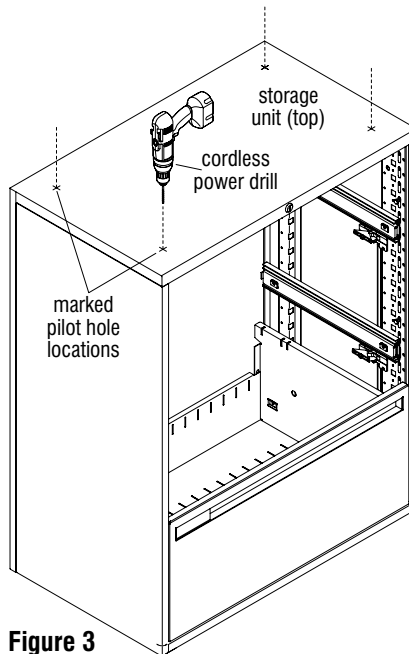

Figure 3
5. From the top of the unit, drill a 1/4" diameter hole at each marked corner, and at the on-center front and back location if applicable (Detail A). When all appropriate mounting holes have been drilled, remove debris from storage unit(s) (Figure 3).